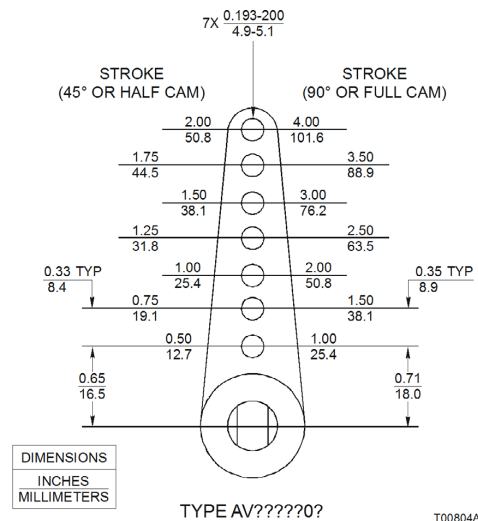

Figure B-3. Drive Arm Connections
1. Set the actuator at the zero position. Connect the adjustable linkage to the drive arm. The drive arm holes correspond to stroke length of the actuator. Refer to Figure B-3 for the stroke length for each drive arm hole.